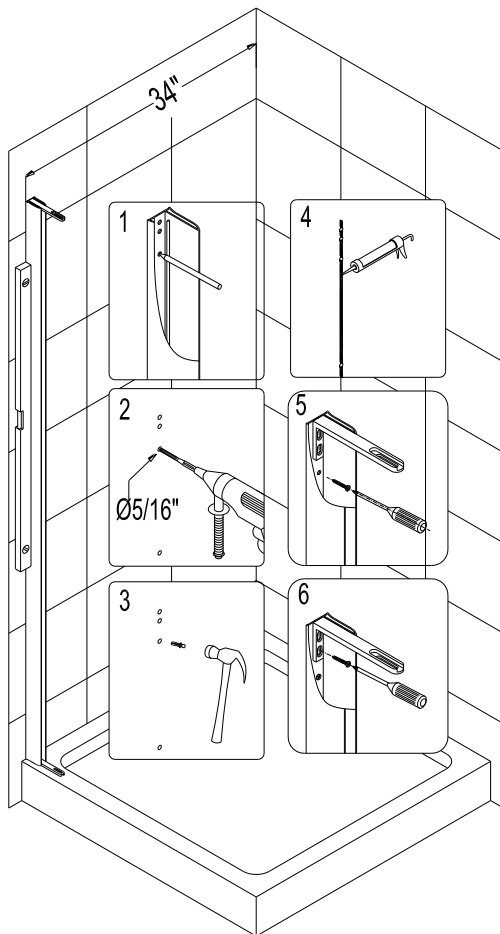

Fig. 1
1. Locate the **Wall profile 1 (01)** in the package. Refer to dimensions in fig. 1 to locate the proper position for it according to the measurement. Outline the external position of the wall profile. Use predrilled holes in the aluminum profile to mark holes for drilling. Drill the holes using drill bit 5/16" and push the **Wall Anchors (19)** into the holes.
2. Run a bead of silicone along the wall profile length. Push the **Pivot retainer (15)** into the top and bottom sides of the **Wall profile 1**. Place the **Wall Profile 1** onto the threshold against the marked line. Secure the **Wall Profile 1** and the **Pivot retainers (15)** at the top and bottom ends of the profile with **Screws ST4.2x30 (26)**. See Fig. 1 for details.